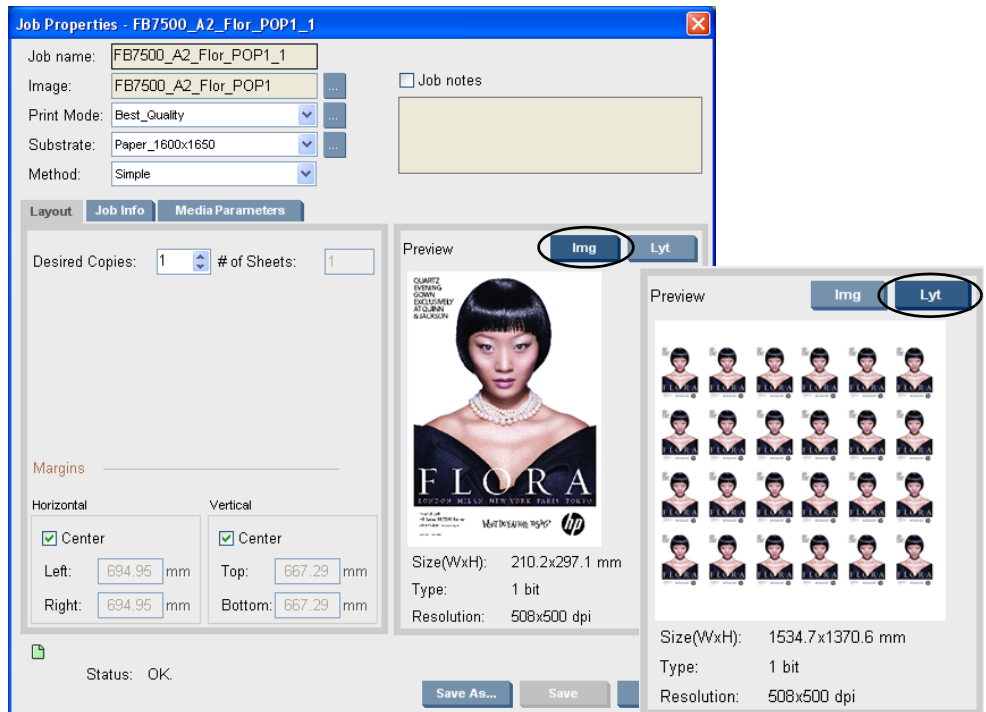

Figure 3-4 Job Properties - Layout Tab
- 4 Select the folder that contains the file separations and click **OK**; the Job Properties window appears again displaying the file's preview and information, as shown in Figure 3-4.
- 5 Select the way of displaying the file preview (see Figure 3-4 on page 51):